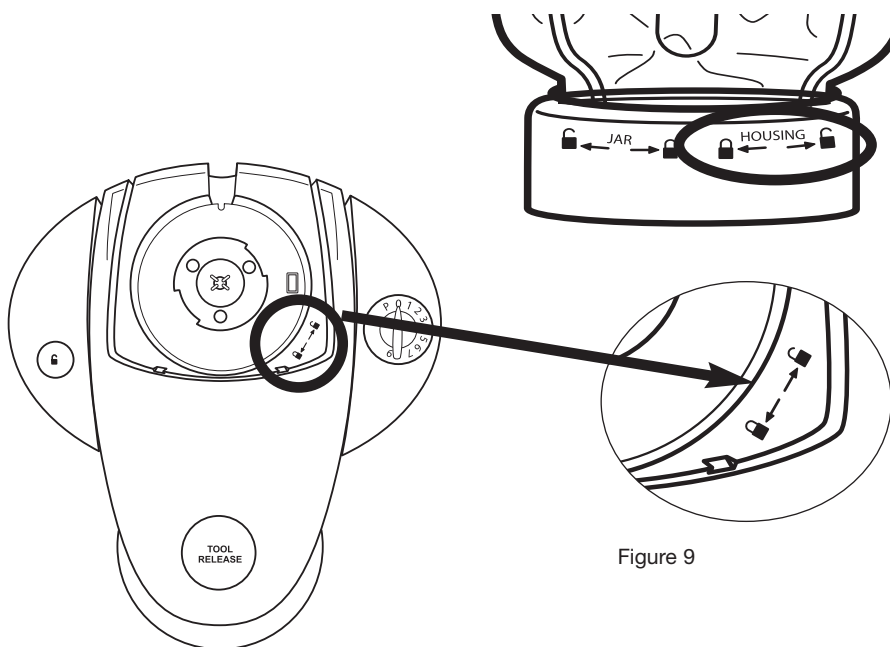

Figure 9
1. Before starting, make sure power cord is unplugged and the Speed Control Dial is in (O) OFF position.
5. Place the Blending Jar on top of the Motor Housing making sure it is firmly seated and not tilting to one side. Follow the arrows on the Motor Housing and the identical arrows on the Blending Jar Collar, see Figure 9. Turn the assembled Blending Jar clockwise until locked into position. Test to make sure the Glass Blending Jar fit is secure.